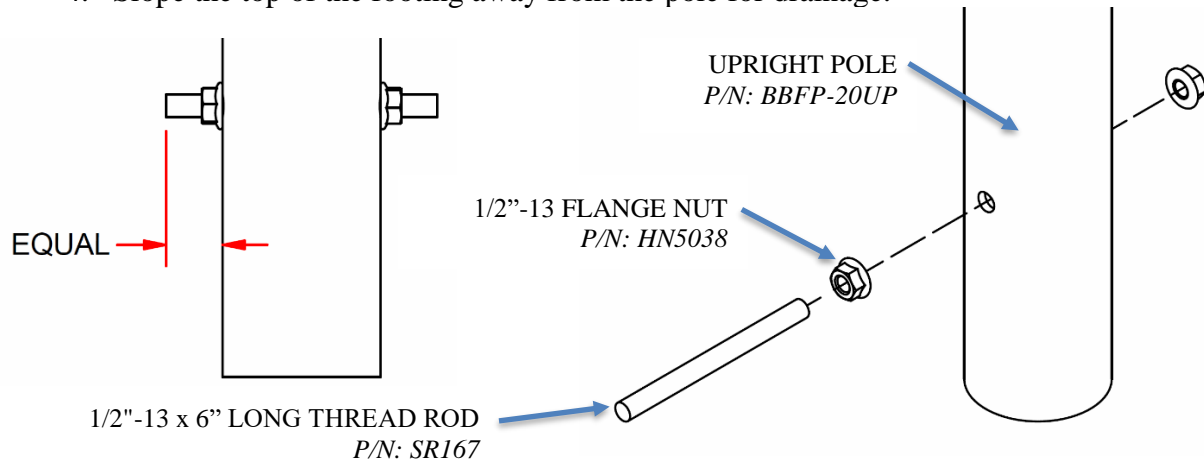

FIGURE: 3
1. Install the anti-rotation rod into the bottom hole of the foul pole. Center the rod within the pole and install 1/2" flange nut on both ends (see figure 3).